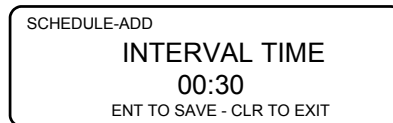

Figure 3-55. Interval Time Screen
- e. On the INTERVAL TIME screen, use numeric keys to enter time interval between successive TOD sync broadcast transmissions in hours and minutes and press [ENT]. See Figure 3-55.